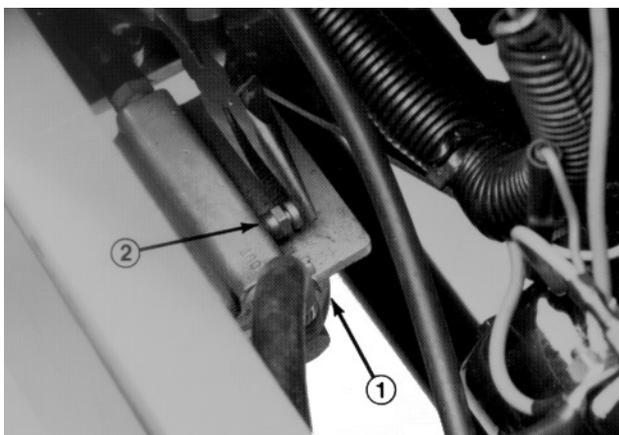

Figure 12
2. Loosen the air bleed screw on top of the fuel filter/water separator (Fig. 12).